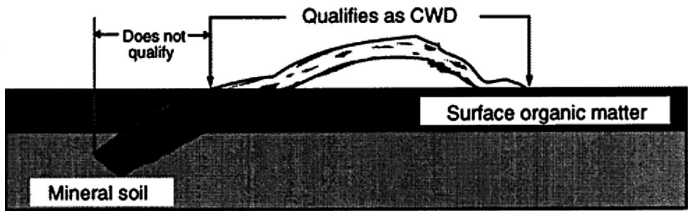

Figure 3. Tally only CWD that lies above the soil.
- Tally only the CWD that lies above the soil (see Figure 3). A piece is no longer above the soil when it is entirely buried beneath a layer of surface organic matter (forest floor) and/or mineral soil. Estimate an “equivalent” diameter for the remaining portion of logs where part of the wood has decayed and become part of the soil layer.